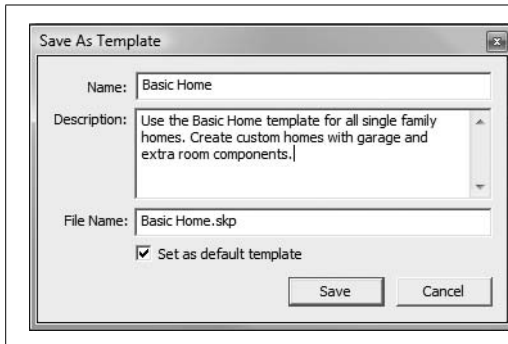

Figure 1-10:
6. Choose File → Save As Template (Figure 1-10).